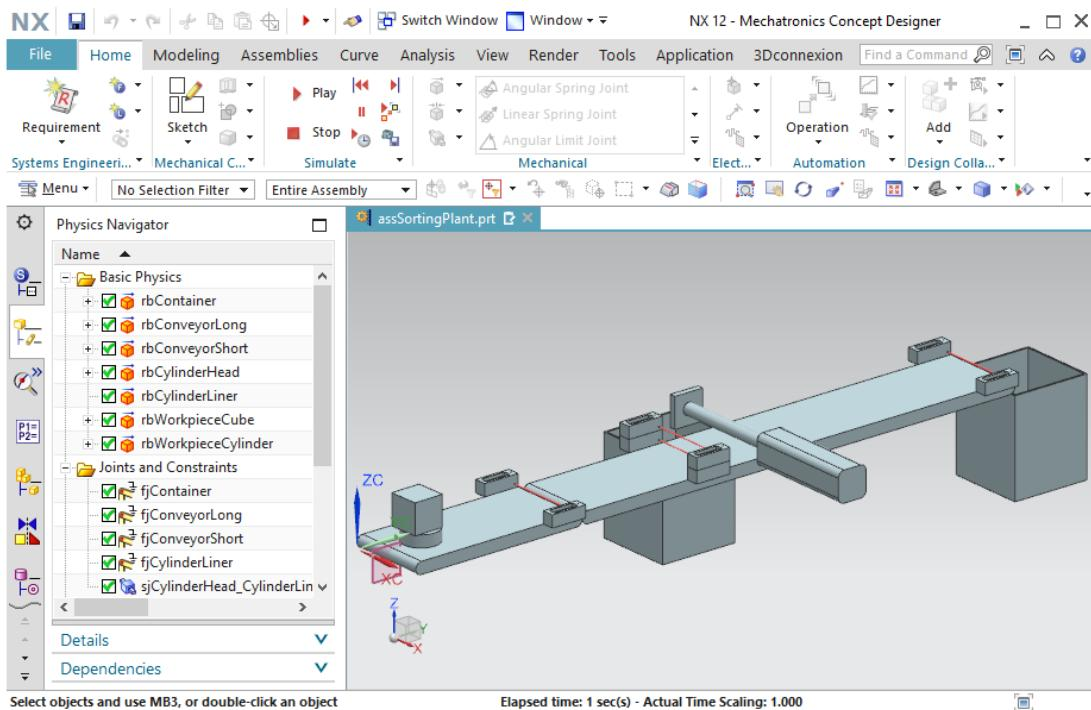

Figure 39: Simulation of the first position control of the ejector
- Start a simulation. You will find a description for this in Chapter 7.1, "Section: Starting and stopping a simulation in MCD" for this. You can see here that the head of the ejector extends fully (see Figure 39). You must create an additional position control for retracting.